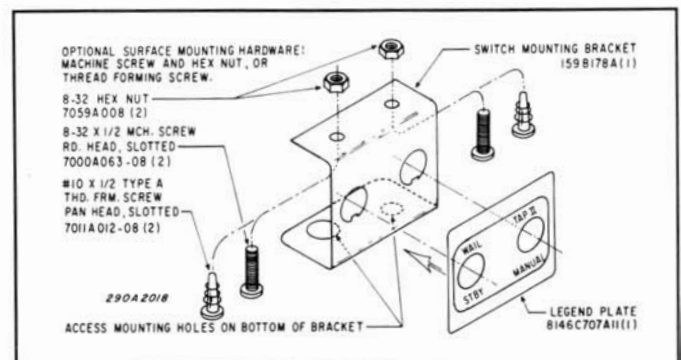

Figure 3. Control Head Installation.
1. Peel off the protective paper backing from the legend plate. Carefully align the holes in the legend plate with the holes in the switch mounting bracket (see figure 3).
3. Drill mounting holes at the position marks. Secure the mounting bracket with two #8 thread-forming screws or two (each) 8-32 screws and hex nuts as shown in figure 3.